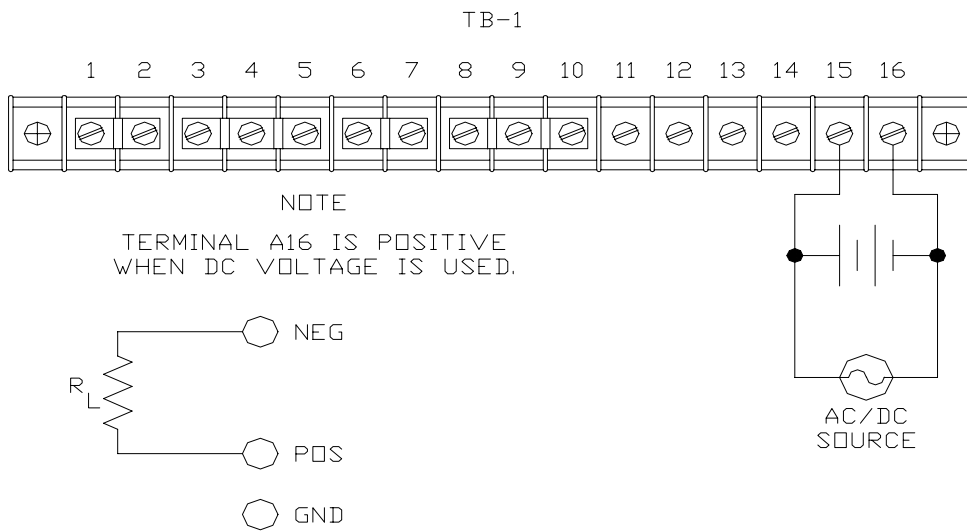

Figure 3-9
- b. Remote on/off control may be accomplished by an external 12 to 240 VAC or 6 to 120 VDC source. Application of AC/DC voltage will turn on the power supply. See Figure 3-9 for connection requirements.